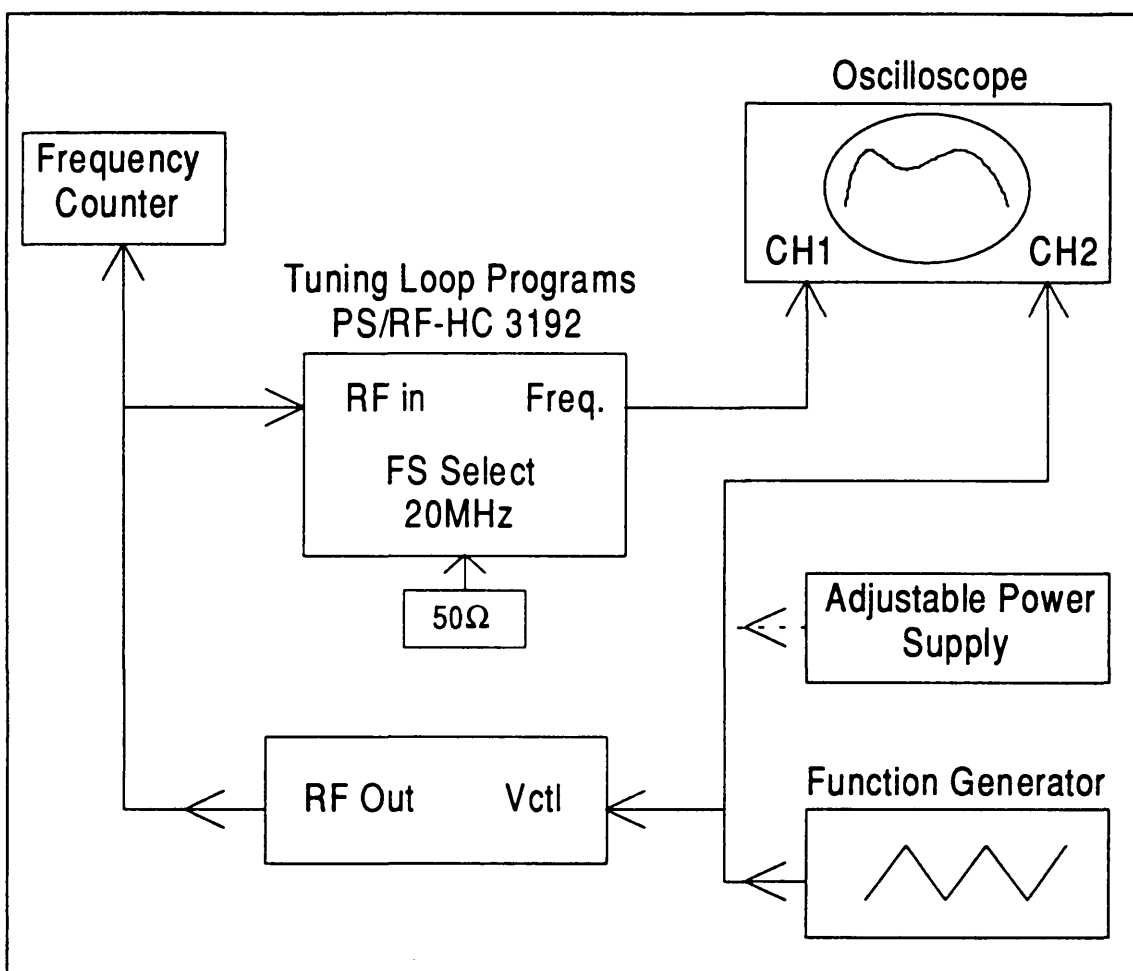

Figure 2. Adjustment Set-Up.
2.1	Prepare the test set-up shown in Figure 2 and adjust the pulse generator to supply a triangular wave with the following characteristics : Period : 0.4 seconds Vmin : 200 mV Vmax : 10 V